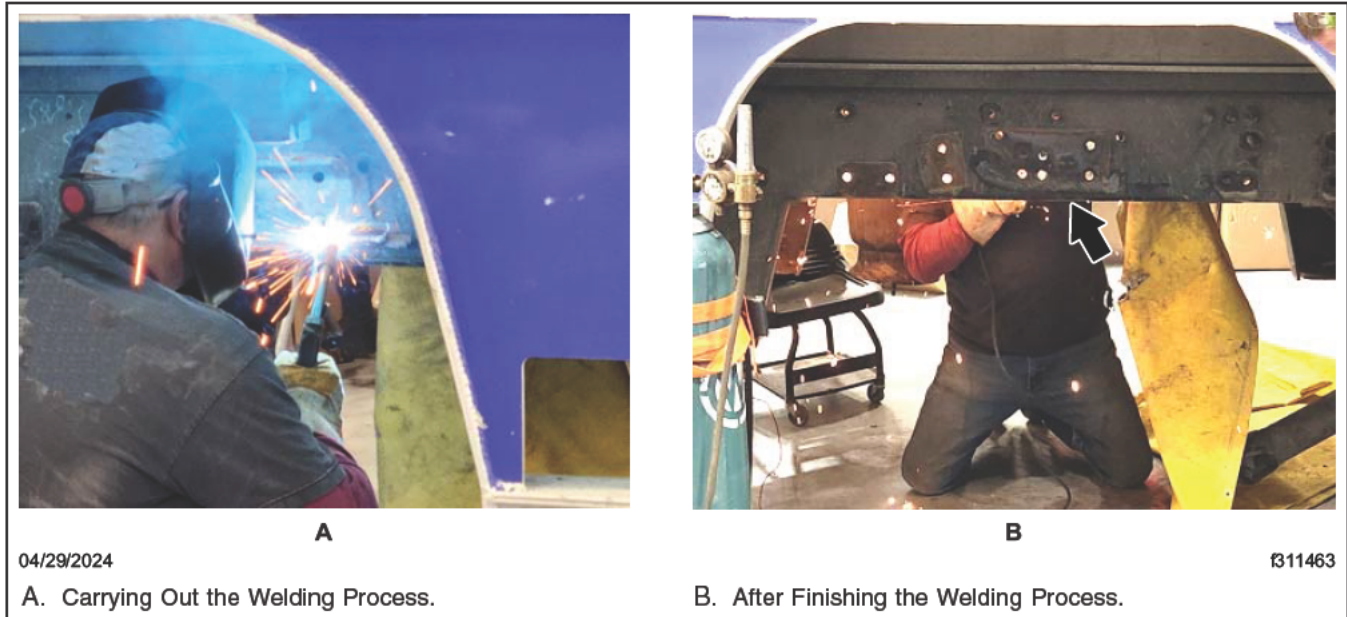

Fig. 20, Welding the Frame Rail Crack
8. Preheat the cracked area to 150°F before welding. See Fig. 20.